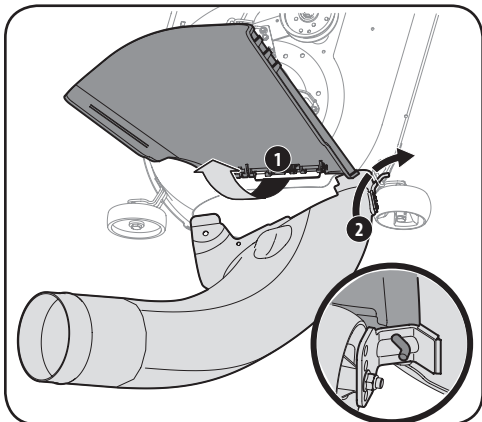

Figure 4-17
2. With the tractor's discharge chute raised up and held open (1), install the chute elbow by placing the chute elbow mounting rod into the hole provided in either your deck wheel bracket or chute mounting tab (2), as shown in Figure 4-17.